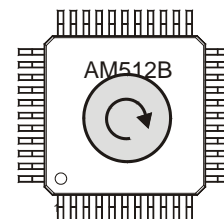

Fig. 3: CW rotation of the magnet
The arrow in Figure 3 shows clockwise (CW) rotation of the magnet. The picture is a top view of the magnet placed above the AM512B. CCW is counter clockwise rotation.